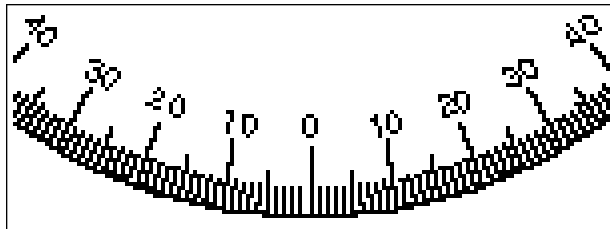

Fig.37: Section of Declination setting circle.
- **Declination Setting Circle:** The Dec. setting circle (Fig. 37) has been factory set to read the correct Declination of sky objects.